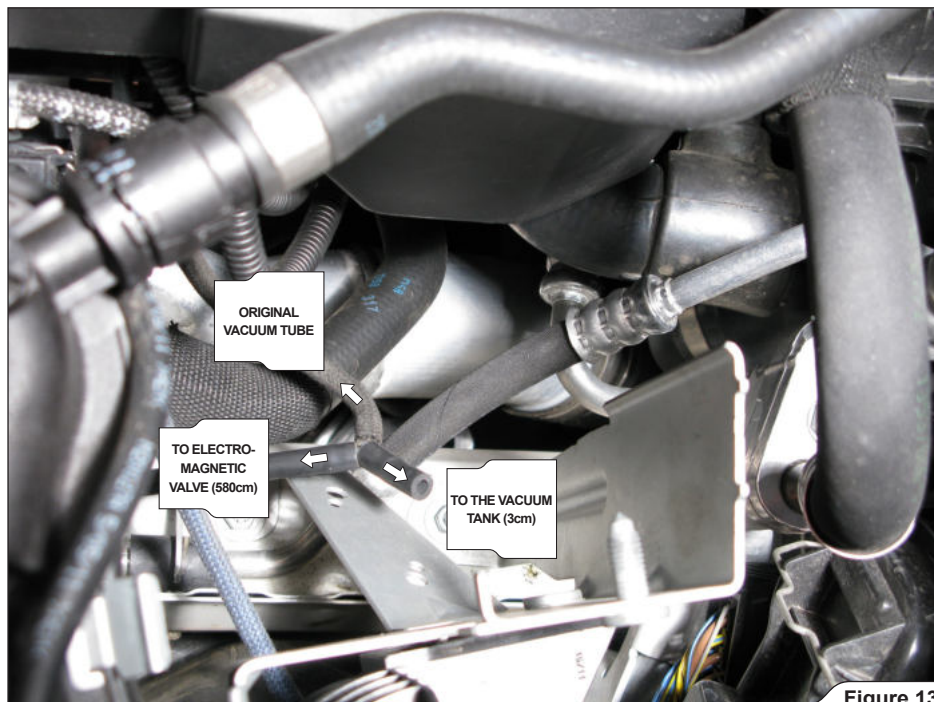

Figure 13
9. Link the Akrapovič 3cm vacuum hose and plastic Y piece distributor to the original vacuum hose. Then connect the Akrapovič 580cm rubber hose to a Y piece distributor (**Figure 13**).